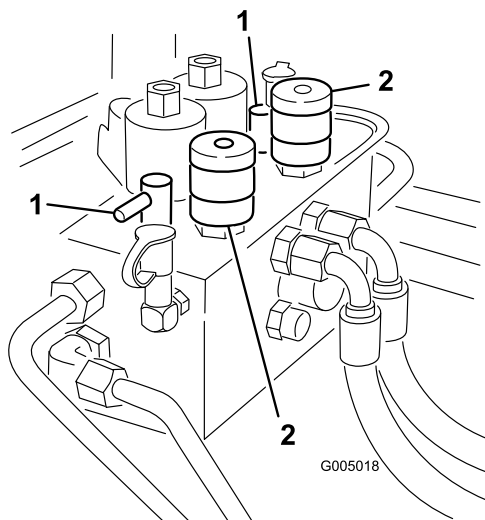

Figure 82
3. Locate the reel speed selector knobs and backlap knobs (Figure 82). Rotate the desired backlap knob(s) to the backlap position and the desired reel speed selector knob(s) to position 1.